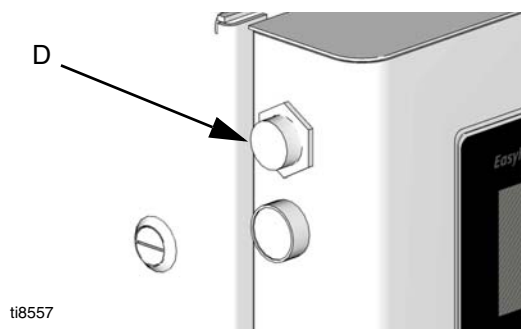
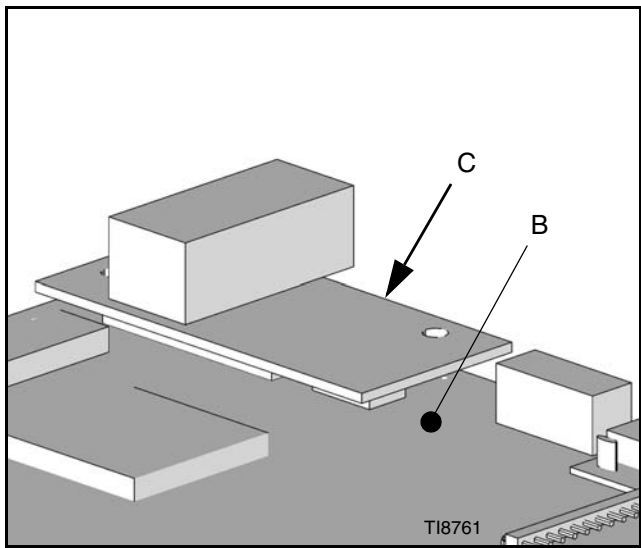
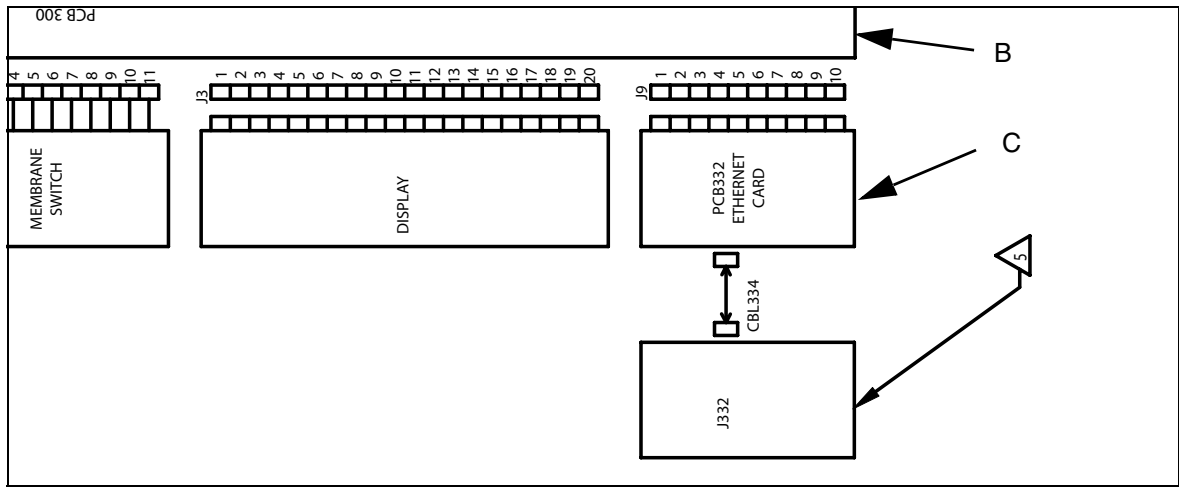

FIG. 37: RJ45 Bulkhead Connector Installation
FIG. 39
FIG. 40
5. Plug the Ethernet Assembly 249183 (C) into J9 making sure the RJ45 connector is oriented down. See FIG. 39 and FIG. 40.
6. Secure the Ethernet Assembly 249183 (C) to the EasyKey Display 249480 (B) using the hardware provided.
7. Remove plug (D) covering Ethernet opening at the upper right corner of the Control Panel. See FIG. 37.
9. Connect one end of the Ethernet cable to Ethernet Assembly 249183 (C).